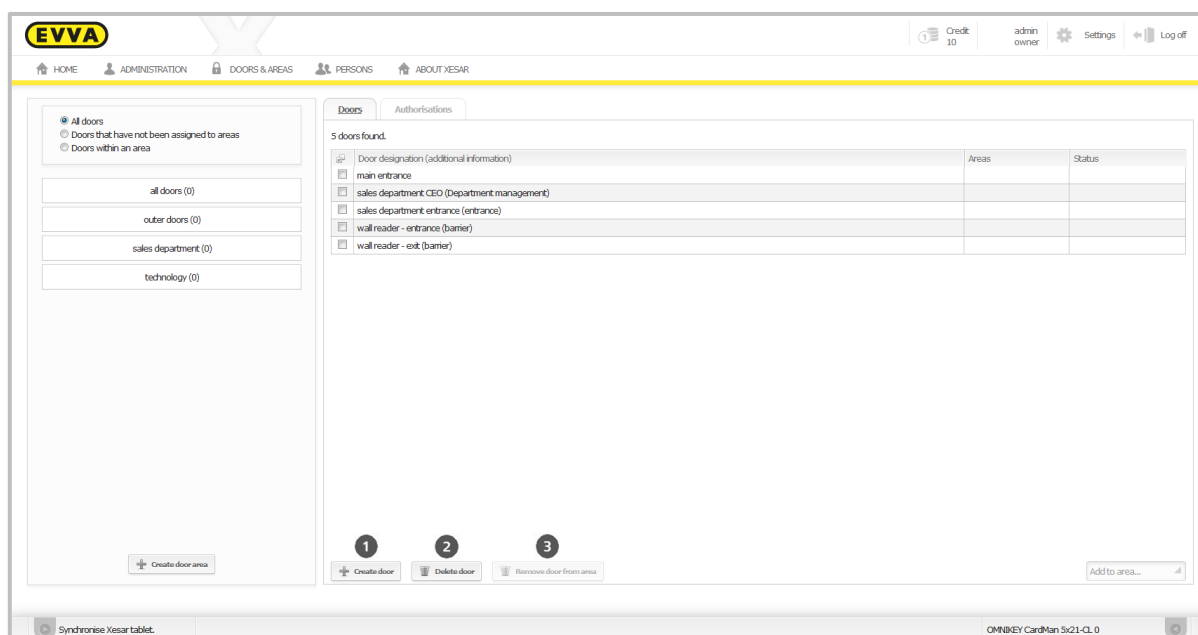

Figure 69: Managing doors
- Click the **Create door** field ❶ and proceed as described in Section (
- **Creating** doors; Figure 69: Managing doors).
You can also delete doors in this menu item (Figure 69: Managing doors).
Proceed as follows to delete doors from an area (Figure 69: Managing doors):